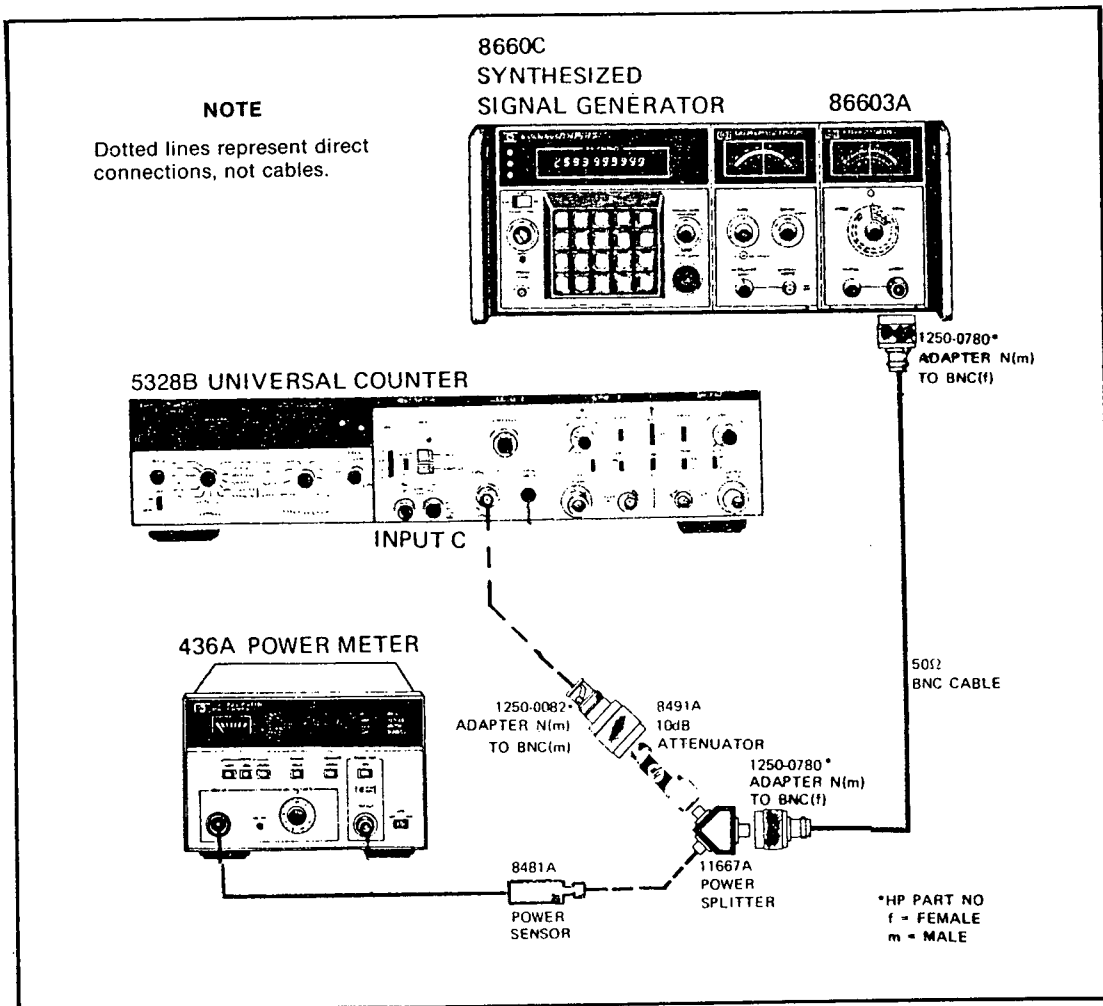

Figure 4-14. Channel "C" — Frequency Response and Sensitivity Test — Setup
- a. Set up the equipment for this test as shown in Figure 4-14.